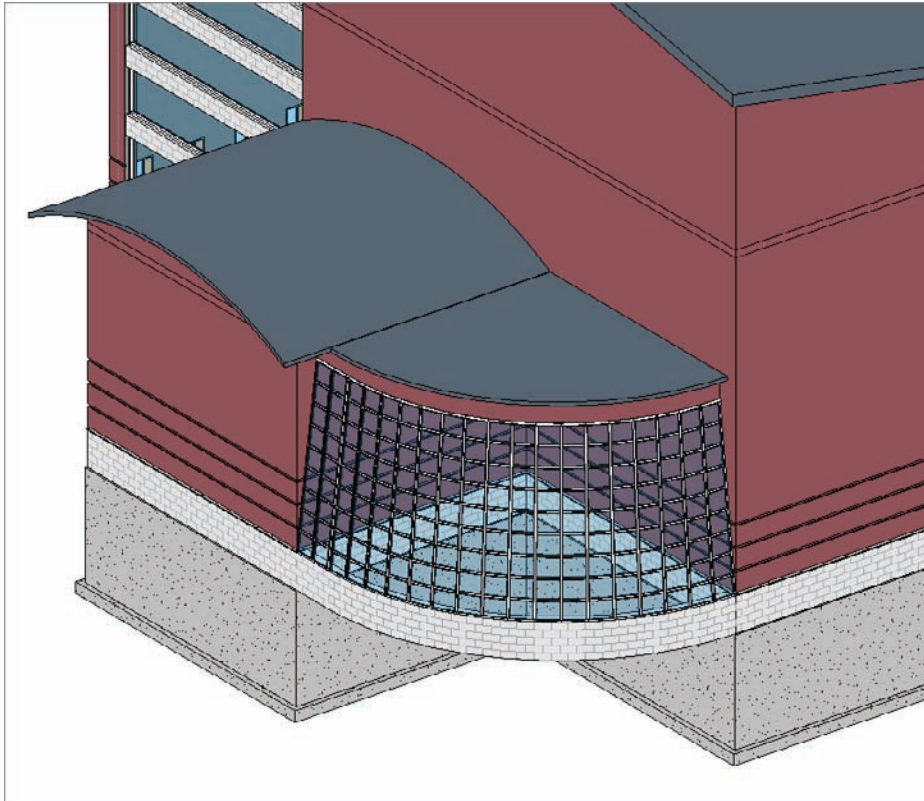

FIGURE 16.55 The new funky atrium
12. Go to the default 3D view. Your new atrium should look like Figure 16.55.